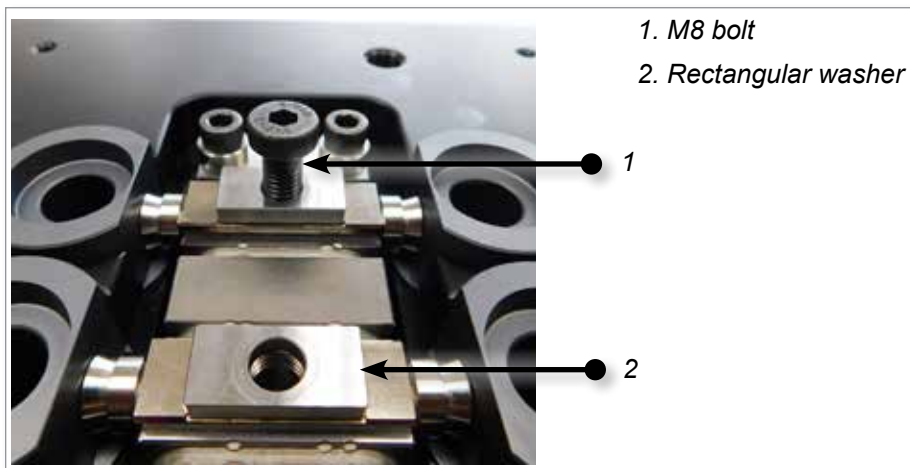

Figure 5-105 Install rectangular washer and bolt
2. Insert the rectangular washer and the M8 bolt onto the melt block. Torque bolt at 27 Nm (20 ft.lbs). See Figure 5-105.